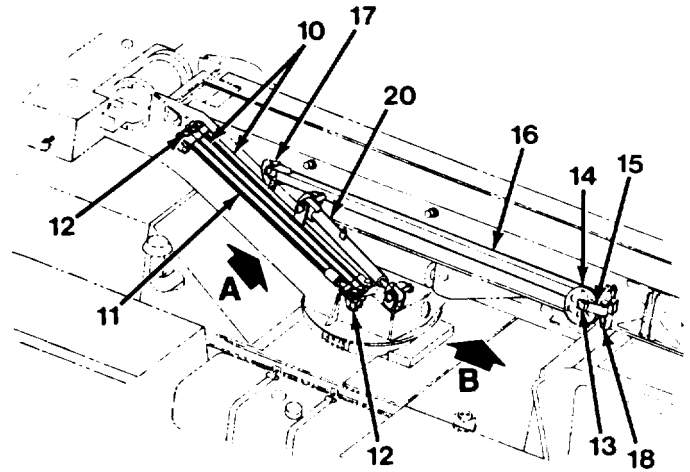
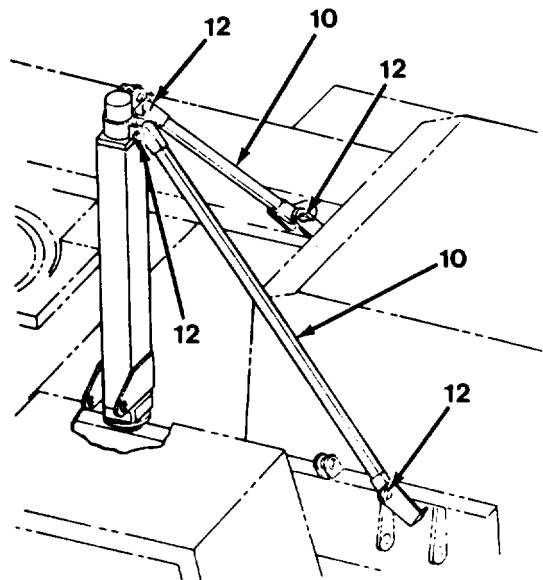

Figure 5-11. Storage Locations A and B
Figure 5-11A. Installing the Truss Rods
- b. Manually lower lift arm (16) down toward boom.
- c. Remove sheave (14) from clevis on lift arm (16). This will leave the cable slack.
- d. Remove adjustable truss rod (11) by removing pin (12) from top of lift arm (16).
- e. Remove bottom pin (17) and lift arm (16) from mast (3, Figure 5-3 1). Restow in storage location B (Figure 5-11) on right side of boom.
5. Remove and stow mast (3) as follows:
- a. Remove two truss rods (10) from mast (3, Figure 5-11A). Stow truss rods (10) and adjustable truss rod (11) in storage location A (Figure 5-11) on upperstructure.